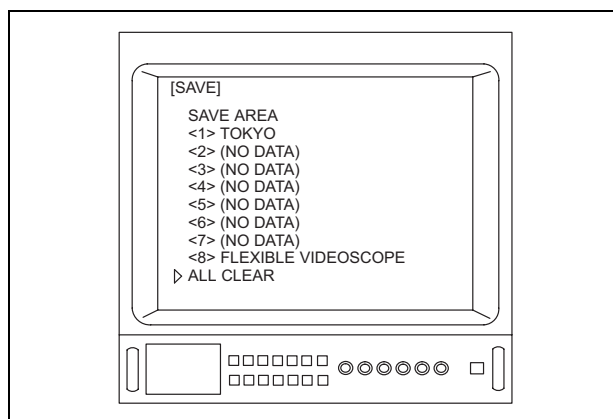

Figure 5.77
6. Depress the menu switches “” or “”, or the “” key on the keyboard to move the arrow “” to “ALL CLEAR” (see Figure 5.77).
- Depending upon the OTV-S7V's settings, the menus shown in Figures 5.77, 5.78 and/or 5.79 may appear different from those displayed on the video monitor.